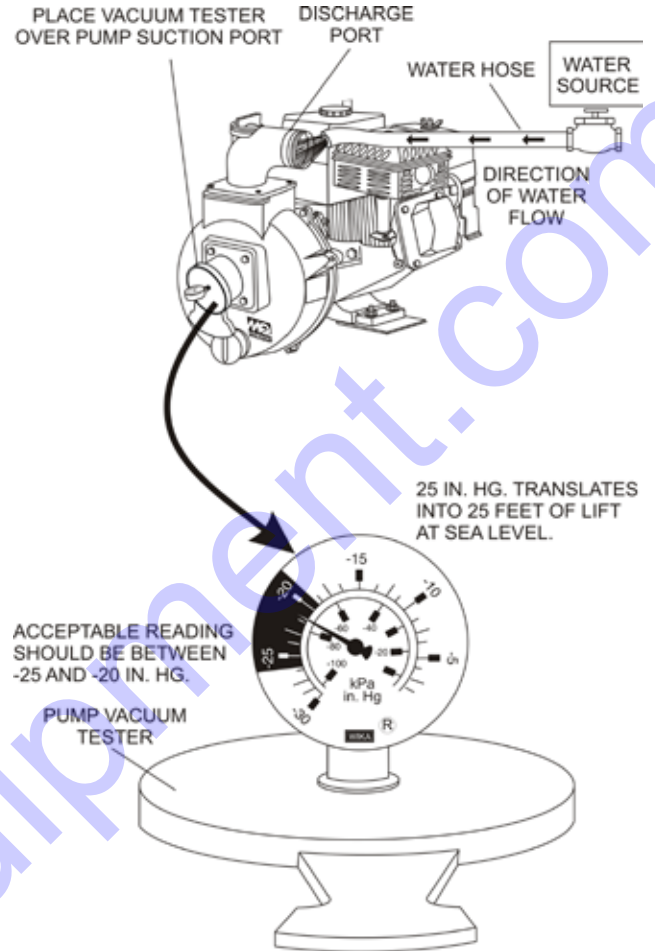

Figure 21. Pump Vacuum Test
3. As shown in Figure 21, place a water hose inside the discharge opening of the pump, and turn on the water. This flow of water into the discharge opening will prevent the pump from running dry.